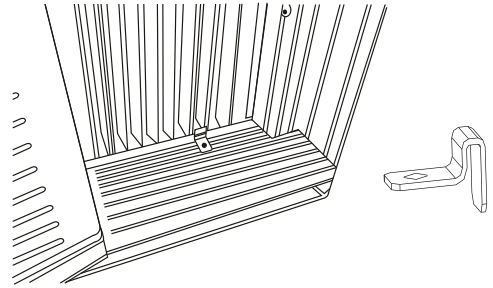

Fig.18C
- Attach the Lock Frames to the window sill using two $3/4$ " (19mm) screws (Fig. 18C) (on some models).